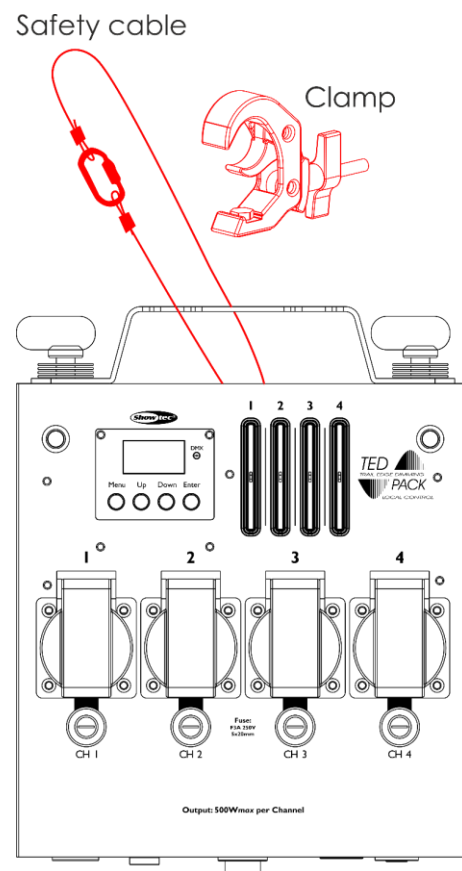

Fig. 09
- 02) Install the clamp, as shown in Fig. 09. Make sure that you use a clamp suitable for attaching the device to a truss.
- 04) Secure the device with a secondary suspension, for example a safety cable. Make sure that the secondary suspension can hold 10 times the weight of the device. If possible, the secondary suspension should be attached to a supporting structure independent of the primary suspension. Put the safety cable through the **safety eye (18)**, as shown in Fig. 09.